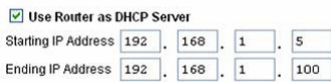

Figure 8 – DHCP Settings
- b. Select **Register to PMH (ParadoxMyHome)** from the drop-down menu (see **Fig. 8** above).